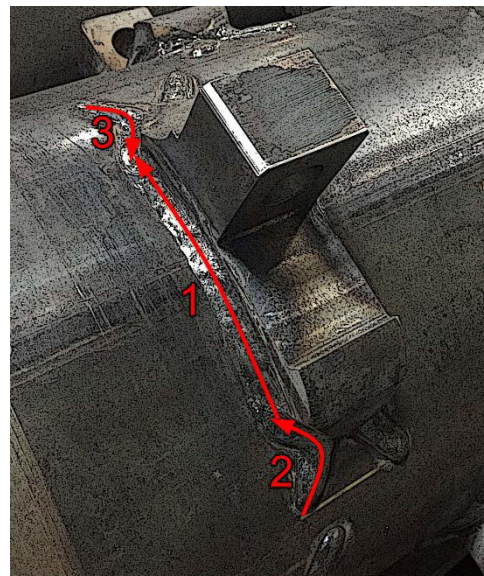

Figure 27
5. Follow the welding pattern illustrated in Figure 27.
**NOTE:** Overlap weld #2 and #3 over weld #1 in Figure 27.